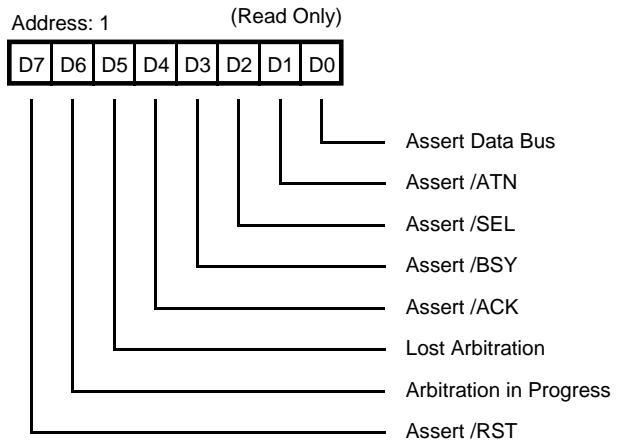

Figure 8. Initiator Command Register (Register Read)
**Initiator Command Register.** Address 1 (Read/Write). The Initiator Command Register (Figures 8 and 9) are read and write registers which assert certain SCSI Bus signals, monitors those signals, and monitors the progress of bus arbitration. Many of these bits are significant only when being used as an Initiator; however, most can be used during Target role operation.